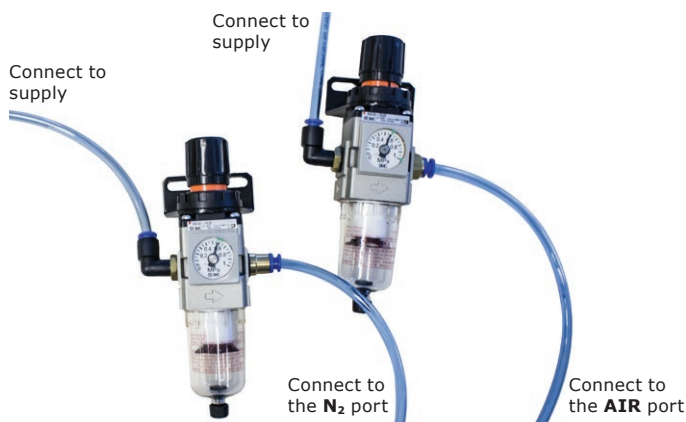

Figure 3. The setup of the two pressure regulators.
20. Connect a pressurized air or nitrogen supply to the **AIR** port located on the right hand side at the rear of the system using one of the pressure regulators; see Figure 3.
21. Connect a pressurized air or nitrogen supply to the **N₂** port located on the right hand side at the rear of the system using one of the pressure regulators; see Figure 3. Set the pressure to 6 ± 0.2 bar (0.6 ± 0.02 MPa; 87 ± 3 PSI). The gas must be free of moisture, particulates, and hydrocarbons. This is essential to prevent sample contamination and general fouling of the pressure unit.